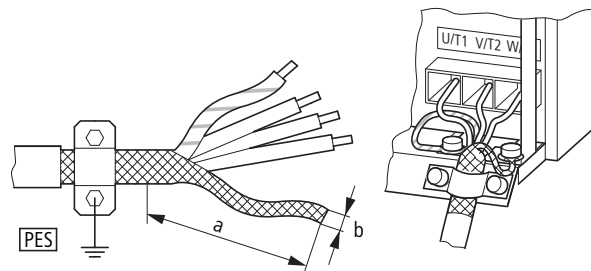

Figure 34: Connection with twisted cable screen
- ▶ Prevent the shielding from becoming unbraided, i.e. by pushing the separated plastic covering over the end of the shielding or with a rubber grommet on the end of the shielding. As an alternative, in addition to a broad area cable clip, you can also twist the shielding braid at the end and connect to protective ground with a cable clip. To prevent EMC disturbance, this twisted shielding connection should be made as short as possible (→ Figure 34).
Alternatively, in addition to the broad area cable clip, you can also twist the shielding braid at the end and connect to the protective ground with a cable lug. To prevent EMC interference, this twisted shield connection should be made as short as possible (→ Figure 34, page 58).